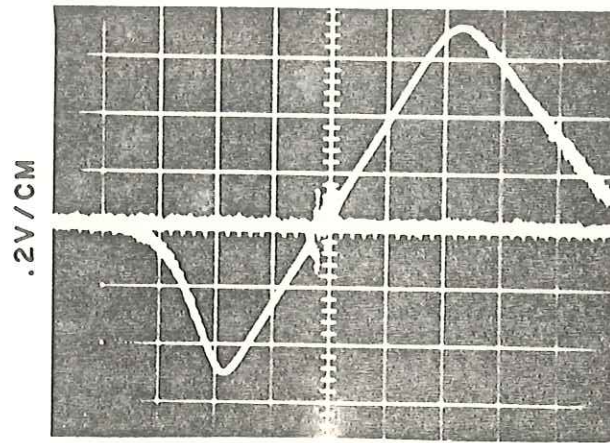
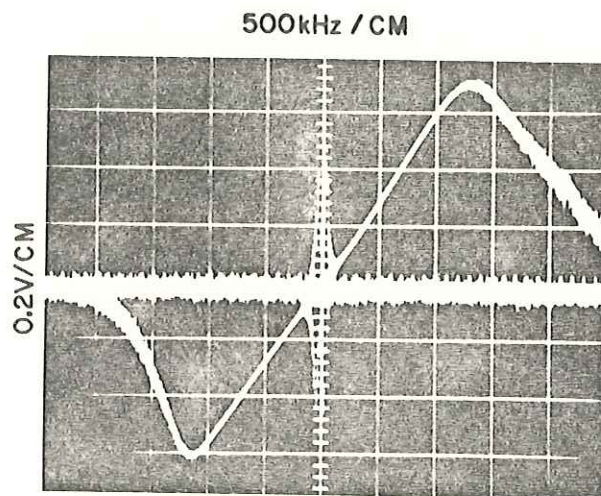

Figure 4-18. Typical Response, 21.4 MHz
Figure 4-19. Typical Response, 21.4 MHz
- (2) Place the IF bandwidth switch in the 4 MHz position (1 MHz position on the DM-112-1).
- (3) Set the sweep generator output frequency to 21.4 MHz. Turn-on the internal 21.4 MHz marker or apply an external 21.4 MHz marker to the sweep generator.
- (4) Adjust the oscilloscope and sweep generator controls until an "S" curve response is obtained.
- (5) Adjust A13A2C11 to center the "S" curve at 21.4 MHz (adjust A13A2C8 on the DM-112-1).
- (6) Adjust A13A2C9 for peak-to-peak symmetry (adjust A13A2C5 on the DM-112-1). A typical response for the DM-112 4 MHz and 2 MHz bandwidth discriminator's are shown in Figure 4-18 and Figure 4-19.